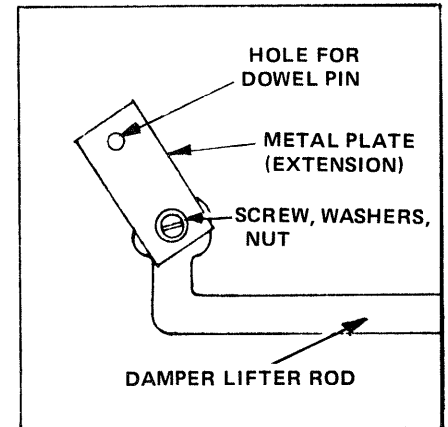

FIGURE 9-22 Damper Lifter Rod extension.
J. Plug the Power Cord into the Circuit Interrupter and turn the Interlock and ① POWER Switches ON. Repeat STEPS 9-60 through 9-64 (A through G) to realign the Solenoid assembly completely. If the Solenoid is functioning properly, proceed to point P on page 134. If it is not, proceed to Point K below.
K. TO INCREASE SYSTEM RELIABILITY and increase the thrust of the Solenoid, it is suggested that you add an extension to the Damper Lifter Rod. This extension increases the amount of leverage the Solenoid can apply to the Lifter Rod and, since a great deal of force is required to lift the Dampers, this extension greatly reduces the amount of work the Solenoid must do. To accomplish this, make a small metal plate, drill a hole near each end of the plate, and attach the plate to the Damper Lifter Rod by means of a screw and nut, then slip the Dowel pin of the Solenoid assembly through the free hole in the plate (see FIGURE 9-22). After doing this procedure, you will have to repeat STEPS 9-60 through 9-64 (A through I) to realign the Solenoid. See the NOTE below, then proceed to Point P on page 134.